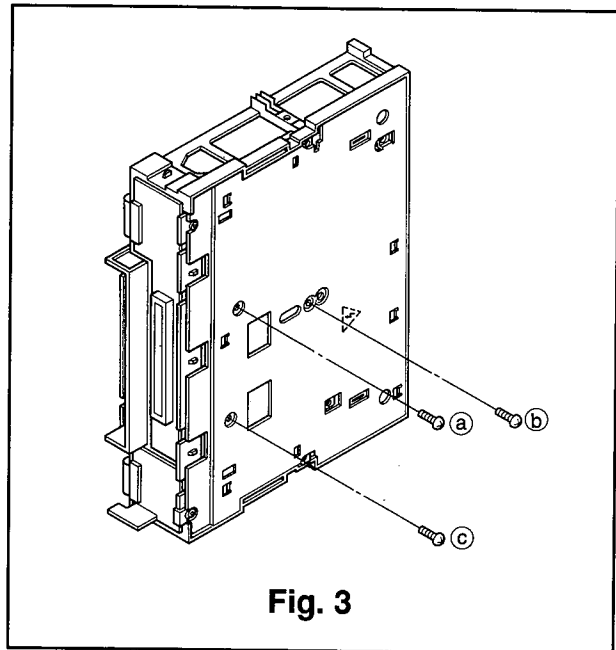

Fig. 3
- ① Remove the Top Cover, refer to Para. 1.
- ② Remove the three fastening screws (a), (b) and (c) on the bottom of the set shown in Fig. 3.